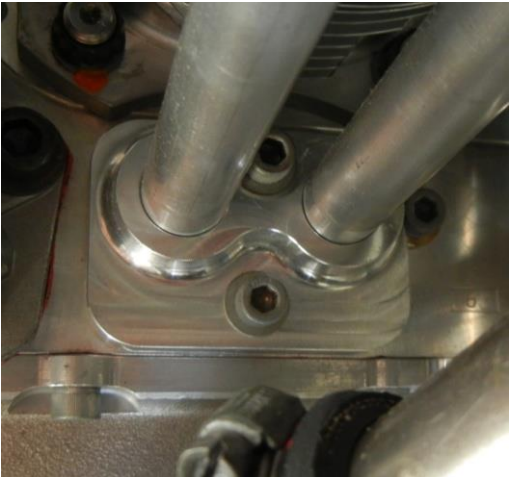

Figure 57 – Oil Return Manifolds
- Where equipped, oil return manifolds (Figure 57) are removed by removing the two retaining cap screws.